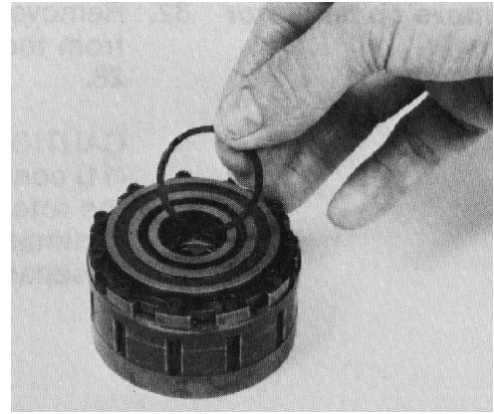

Figure 44
26. Remove and discard the commutator seal from the commutator cover (Fig. 44).